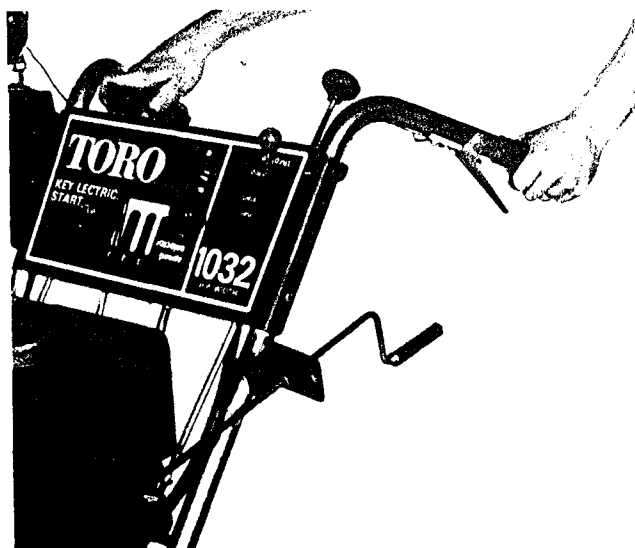

Figure 24
1. With snowthrower on a flat surface, push the left or right wheel clutch in (Fig. 24). If clutch cannot be pushed in, exert pressure on the knob while moving opposite handle back and forth until clutch moves down (Fig. 24). Next, push the other wheel clutch in. If clutch cannot be pushed in, exert pressure on the knob while moving opposite handle back and forth until clutch moves down.
4. Pull left wheel clutch out fully (Fig. 24). The snowthrower will turn left because right wheel is driving and left wheel is free-wheeling. Just before turn is completed, exert steady pressure on left wheel clutch until it moves fully toward the control panel. Both wheels will now drive. Do the opposite to turn right.